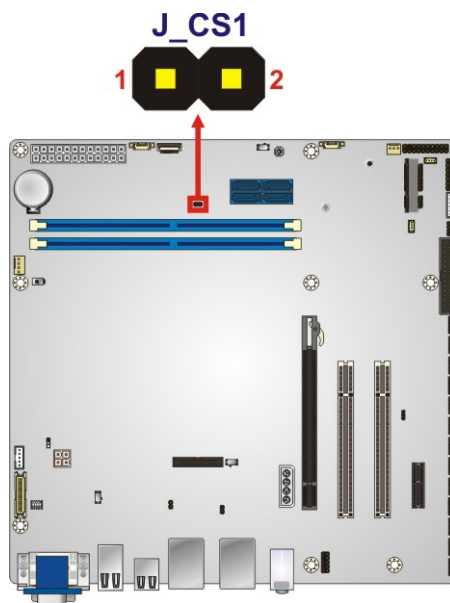

Figure 3-8: Chassis Intrusion Connector Location
- CN Location:** See **Figure 3-8**